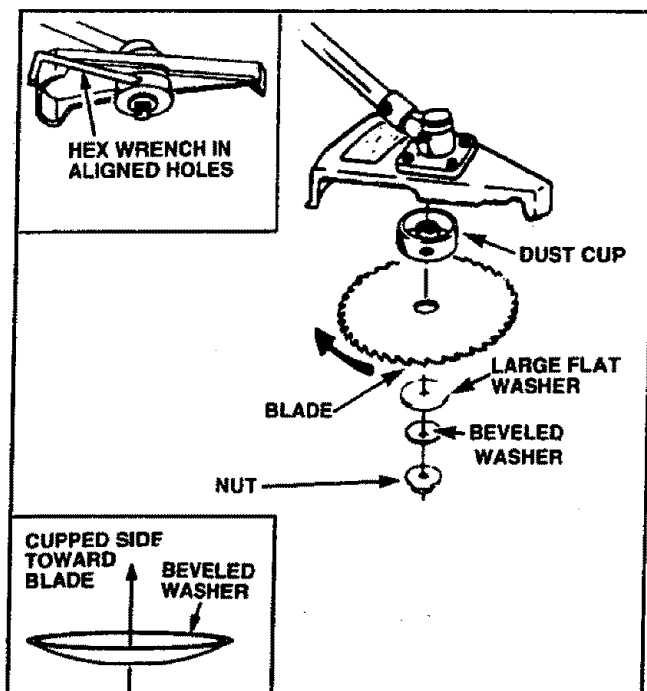

Figure 9
BRUSH BLADE ASSEMBLY (Fig. 9)
NOTE: If installing brush blade, make sure teeth on blade are oriented as shown in Figure 9.
- Install the large flat washer, beveled washer and flanged hex nut. Be sure beveled washer is installed as in Figure 9 (inset).